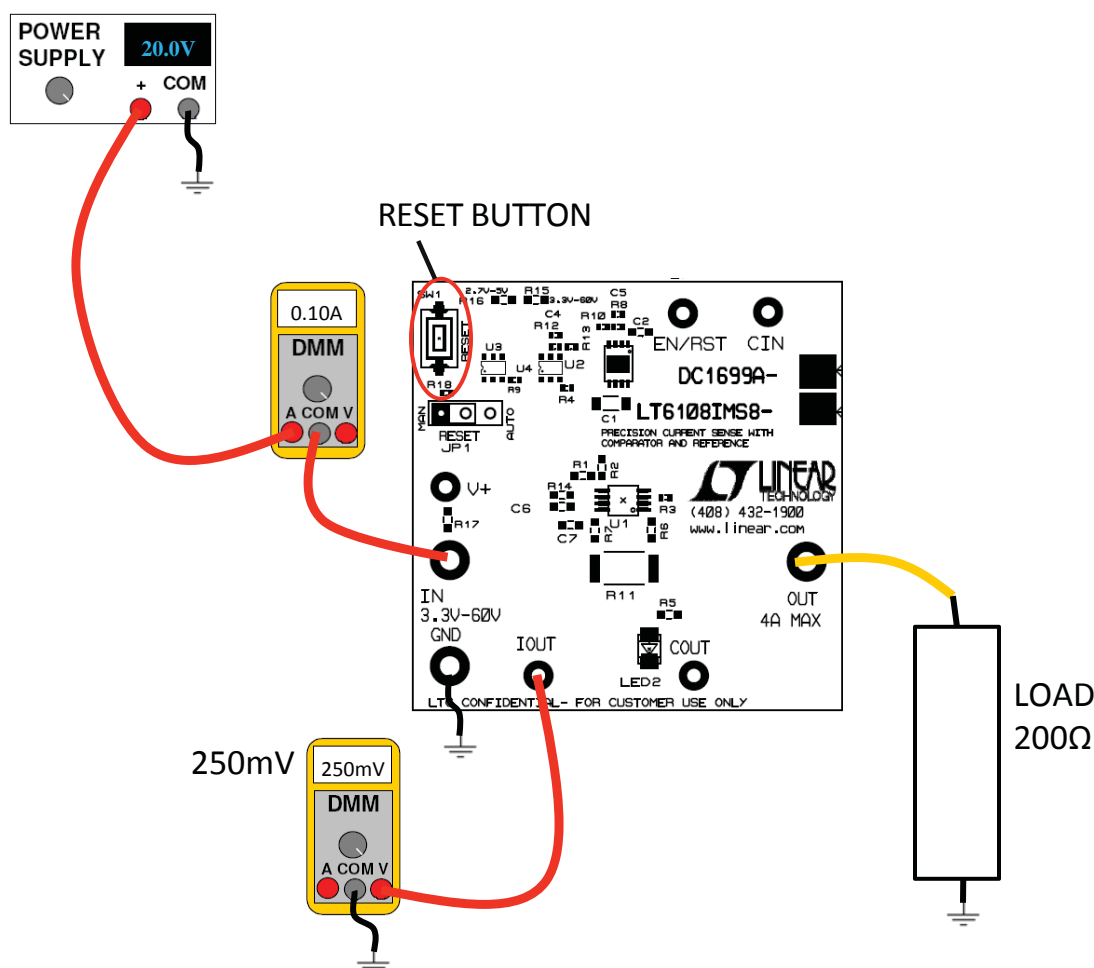

Figure 2.
The DC1699A provides a simple way to evaluate the performance of the LT6108. Refer to Figure 2 for proper measurement equipment setup and follow the procedure below:
1. With the power off, connect the power supply positive to IN and the common to GND. With default board settings the supply can range from 3.3V to 60V. If the supply does not have an accurate current readout, a DMM may be connected in series with the supply as shown in Figure 2.
4. Turn on the power supply. If using the DC1699A-A, the comparator starts in an unknown state and must be reset. This can be done by pressing the reset button. With the load shown in Figure 2 the comparator outputs should be high.